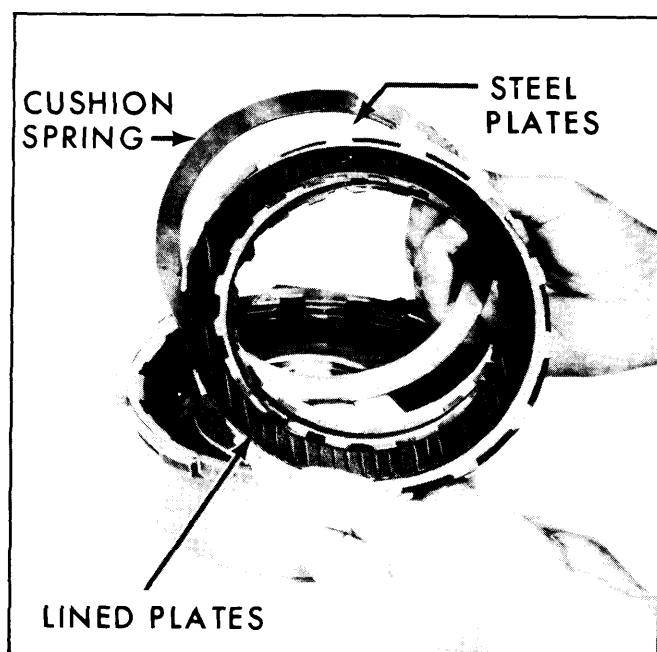

Fig. 7-71—Removing Lined Plates and Steel Plates
2. Remove three lined drive plates and three steel driven plates. (Fig. 7-71)